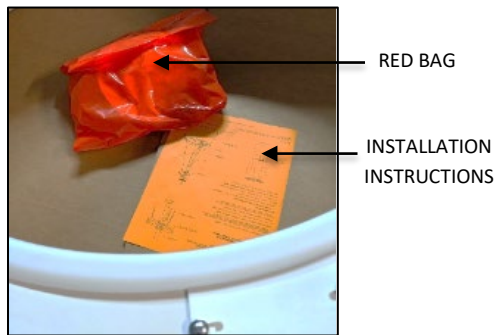

FIG.3- INSTALLATION INSTRUCTIONS
2. INSTALLATION INSTRUCTIONS (as shown in FIG. 3)- Please completely read the install instructions before starting installation.
4. RED BAG (as shown in FIG.3)